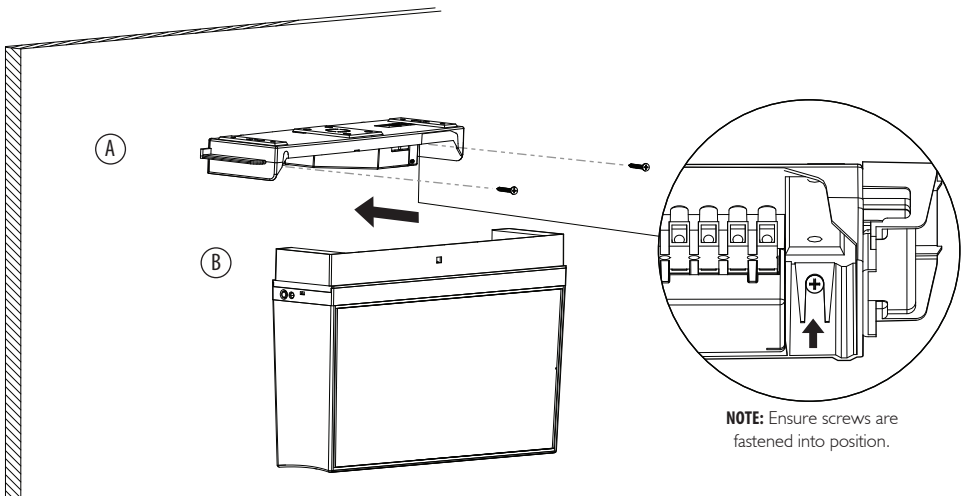

Figure 5: Mercury wall mount installation
2. The top lid of the Mercury is to be wall mounted first by fastening screws into position. The screw positioning can be seen in the **figure 5 (A)**.